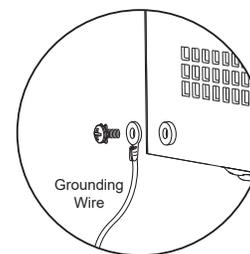

Fig. 7, Power Supply Ground
6. Using a user-supplied ground wire, connect the rack to the power supply ground by using the #10-32 ground stud  in Fig. 3. Connect the other end of the ground wire to the power supply using the ground screw provided (Fig. 7). Refer to applicable codes to determine additional grounding requirements.